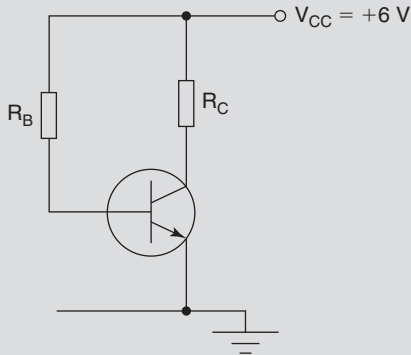

Fig. 27
- 1 For the simply biased transistor circuit of Fig. 27, the required quiescent values for base current and base-emitter voltage are $100\ \mu\text{A}$ and 0.75V respectively. Calculate suitable values for R_B and R_C .